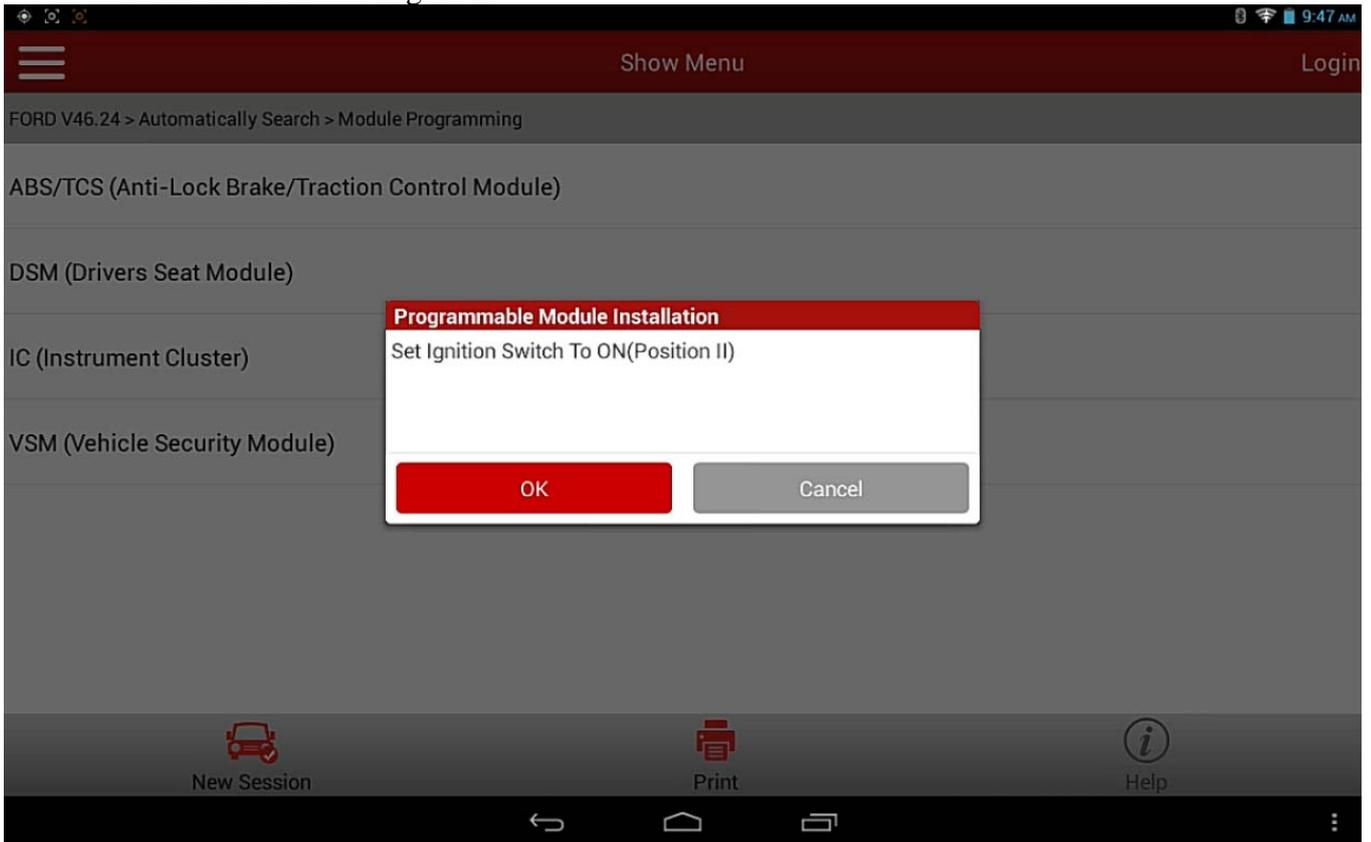

Figure 2
6). Turn the ignition key to ON (position II) and then click OK. The program starts reading old module information. See Figure 2.